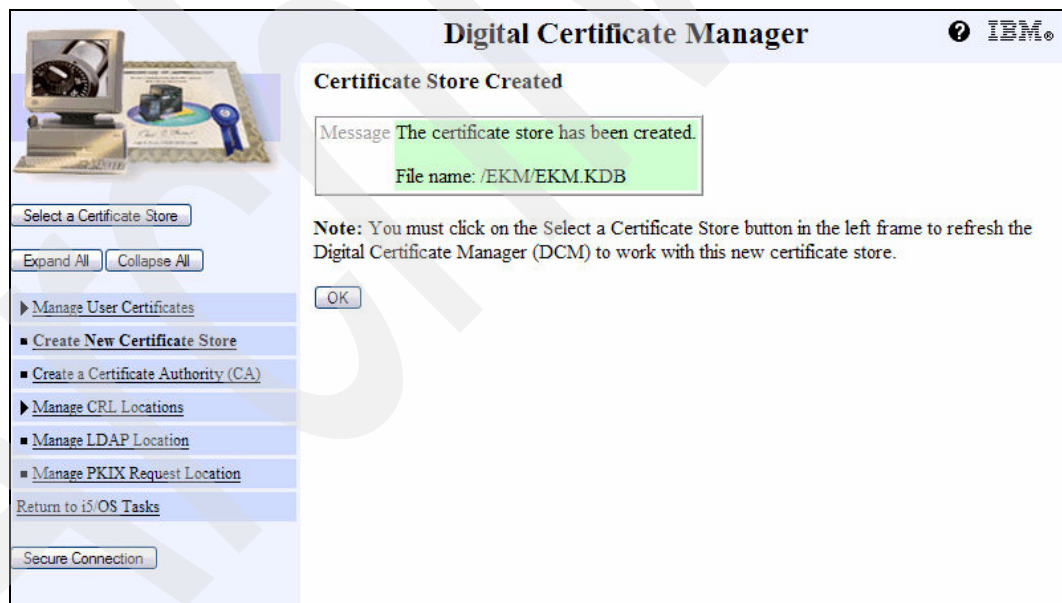

Figure 7-13 DCM Certificate Store Created screen
5. After clicking **Continue**, the successful creation of the certificate store is indicated by the message, The certificate store has been created, as shown in Figure 7-13.